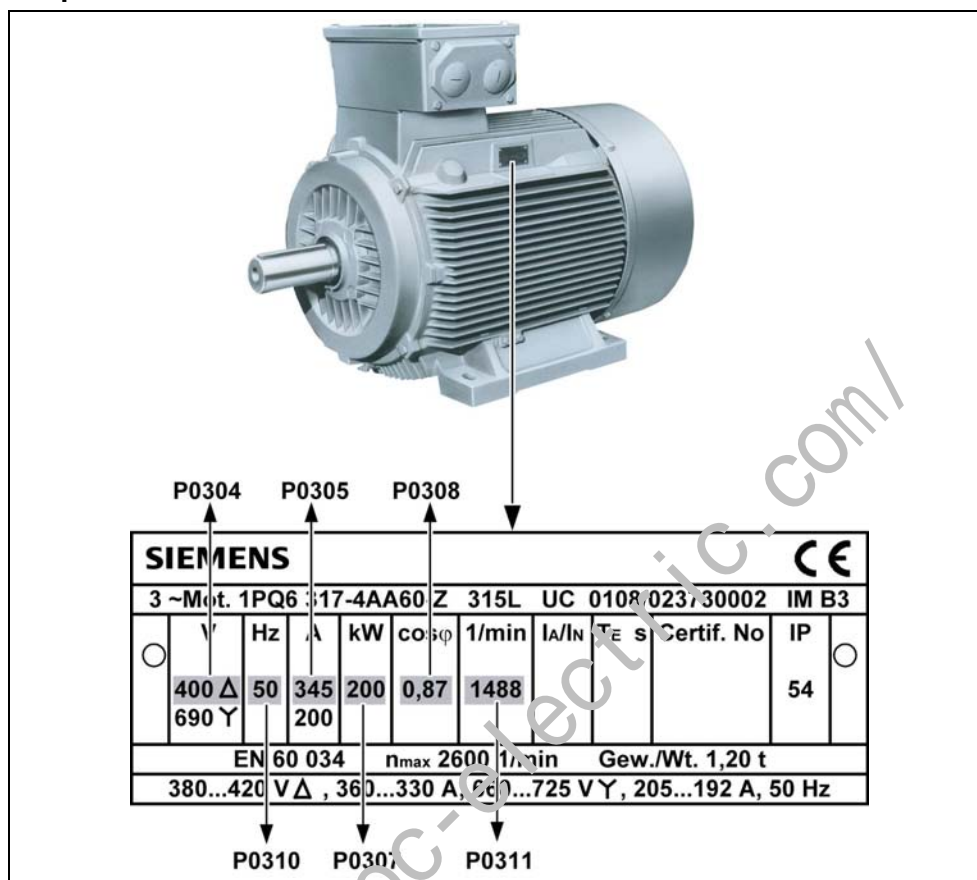

Figure 3-8 Typical Motor Rating Plate Example
3. The inverter is programmed at the factory for standard applications on Siemens four-pole standard motors that have the same power rating as the inverters. When using other motors it is necessary to enter the specification is from the motor's rating plate. See Figure 3-8 for details on how to read motor data.